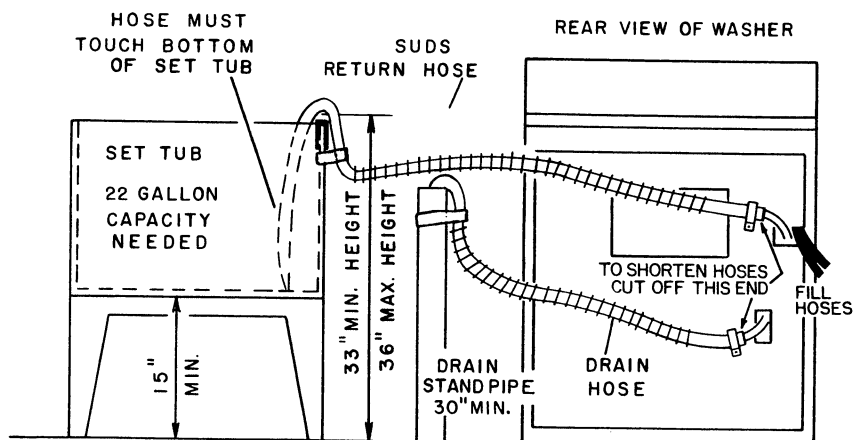

Figure 3 — Typical Suds Save Installation
- a. The suds save hose must be installed with a minimum of sag, Figure 3. Excessive sag may cause the hose to become air locked and prevent the return of saved water.